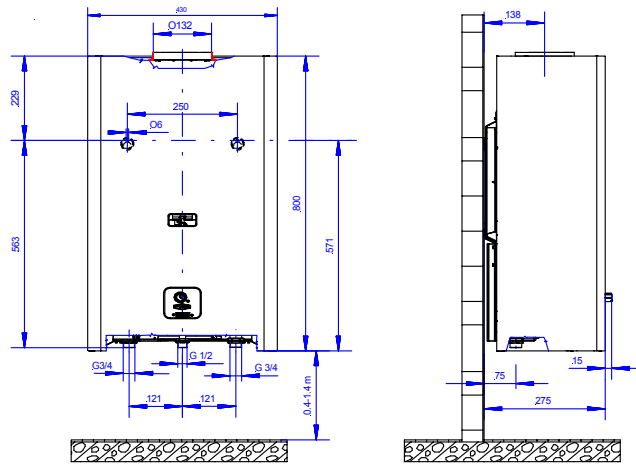

Fig. 4.
1. Insert plugs into the wall at the distances and heights shown in Figure 4.